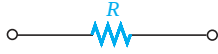

FIG. 3.1
The flow of charge through any material encounters an opposing force similar in many respects to mechanical friction. The collision of electrons with the ions of the material converts electrical energy to heat. The opposition to the current is called **resistance**. The unit of measurement of resistance is the **ohm**, for which the symbol is Ω , the capital Greek letter *omega*. The circuit symbol for resistance appears in Fig. 3.1 with the graphic abbreviation for resistance (R).